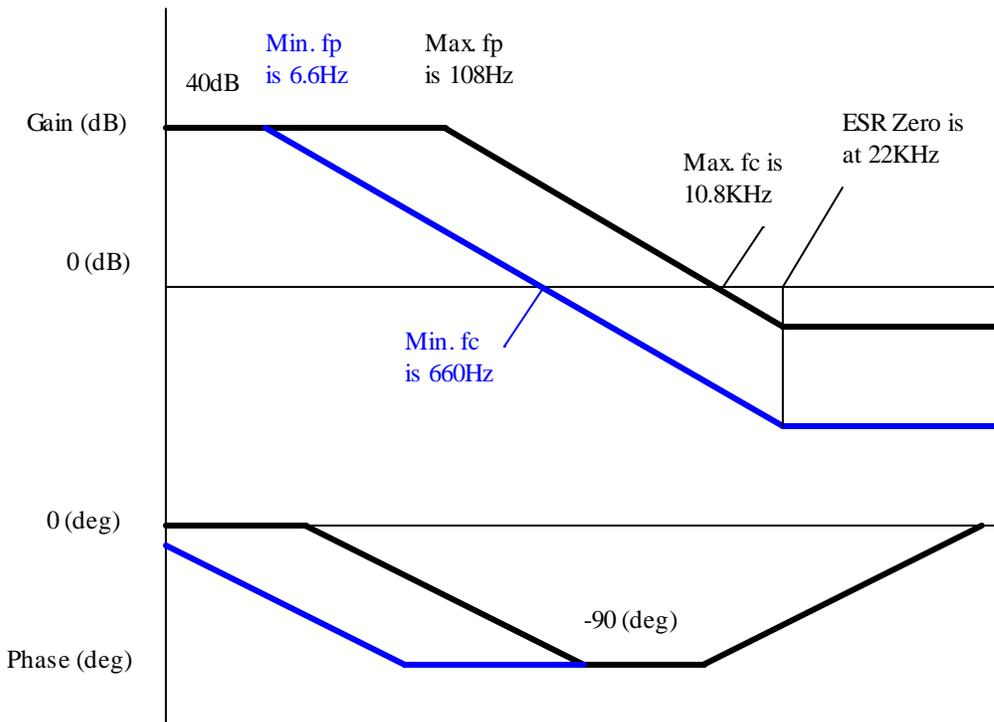

Figure 3- Design example Control-to-output transfer function, gain/phase corresponding to $V_{IN}=7V$ and $I_o=50mA$ are shown in blue.
6- Use a low ESR 100uF, 50V Aluminum electrolytic (ex., Sanyo 50MV1000WX). The low ESR helps maximize the “Zero” frequency (see figure 3). Use a 3.3uF ceramic in parallel to help reduce output ripple.
Using the procedure outlined in appendix 1, the control-to-output transfer function is calculated and plotted in figure 3. Using an Error Amplifier (EA) with type II compensation as shown in figure 4, it is desirable to increase the cross-over frequency f_c shown in figure 3 to a maximum of 1/5 of switching frequency f_s . In this example, however, f_c cannot be increased due to the ESR zero. In order to leave f_c unchanged, compensation should have a gain of 0dB, hence $RZ=R1=51.1K\Omega$. Place compensator “Zero” at Max $f_p=108Hz$. Since RZ is already set at 51.1K Ω , then $CZ=28nF$ (use 27nF). Set the compensator pole at a sufficiently low frequency to obtain good noise attenuation at the given switching frequency. For example, in order to obtain a 20dB attenuation at 600kHz, set the pole frequency to 60KHz. Solving for C_P , we get $C_P=52pF$ (use 56pF).